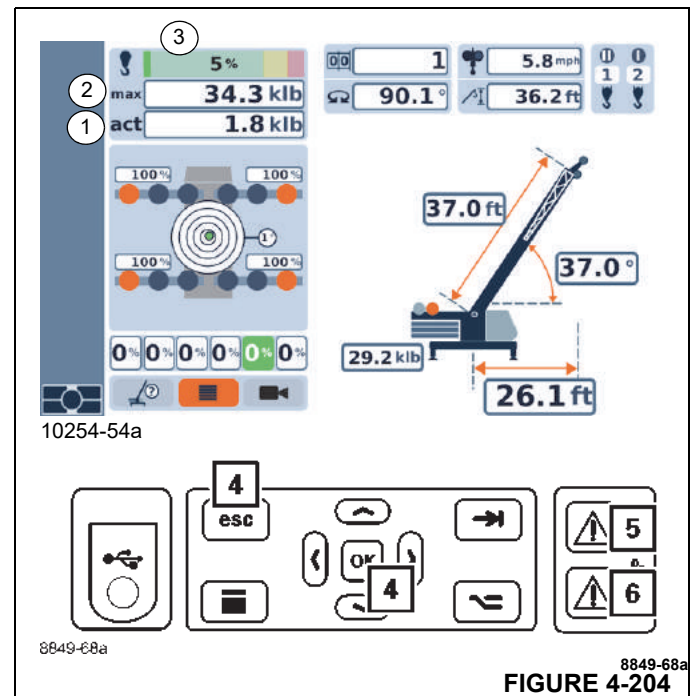

FIGURE 4-204
- After five seconds, you can switch off the buzzer tone using button (4, Figure 4-204).
- Lamp (6) will illuminate.
- Display (3) shows the current degree of utilization, e.g. 100%; the bar is red.
- The value on display (1) is equal to or greater than the value on display (2).